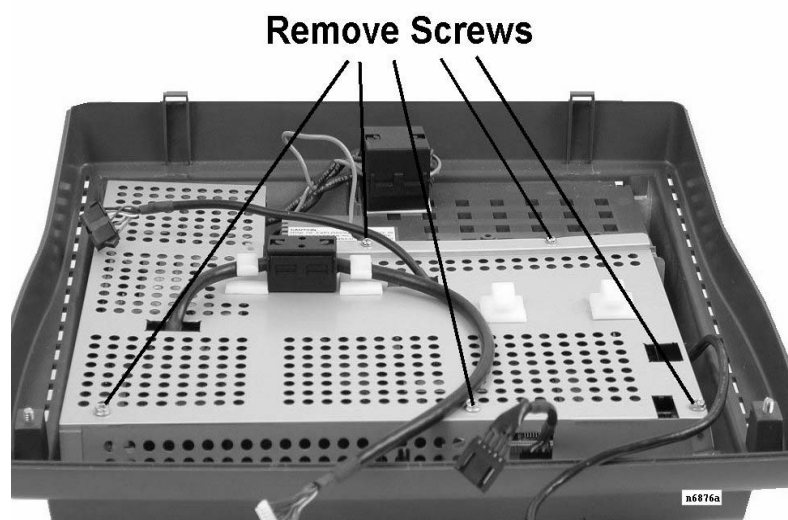

Figure 2-5: Removing the RF Shield screws
9. Remove the RF shield. First, remove the five screws shown in Figure 2-5